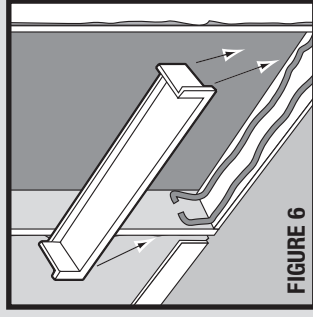

FIGURE 6
- 3.6.2. Install rigid sill pan or site built sill pan per ASTM E2112 installation practices. (figure 6 - 7)